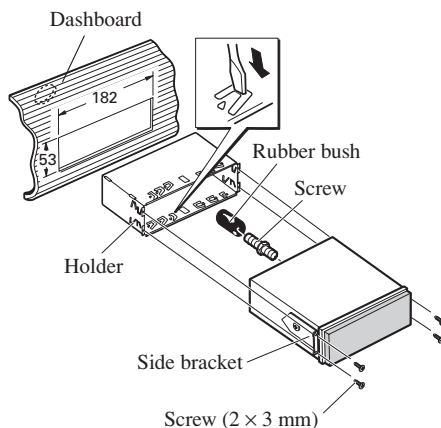

Fig. 17
2. **Install the unit into the dashboard. (Fig. 17)**